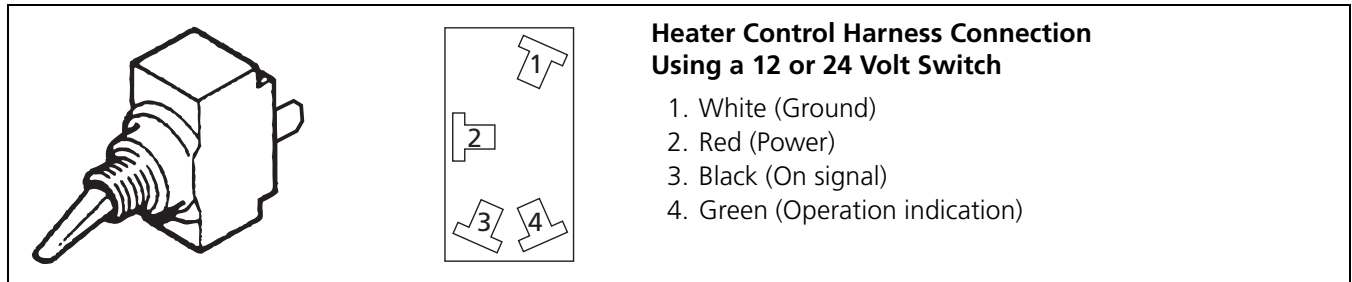

Figure 30: Toggle switch
- Switch, see circuit diagrams in Figures 30 and 32.